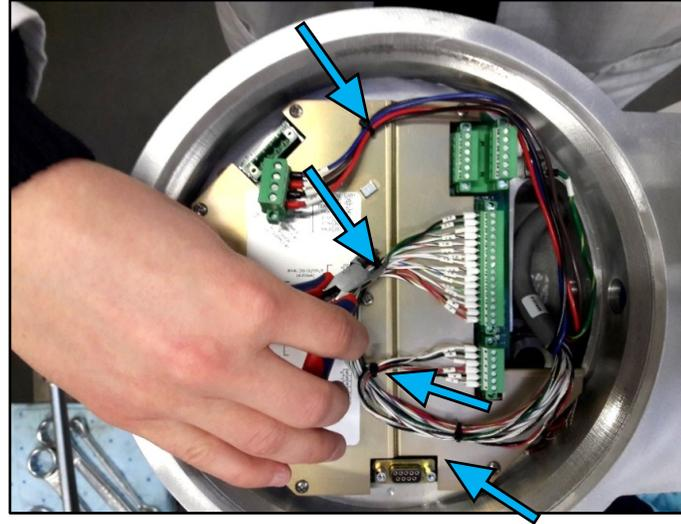

Figure 2-13. Cable Ties Removal Inside VariStroke
32. Carefully cut-off cable ties in the VariStroke connection compartment (use Cable Tie Removal Tool) (Figure 2-13).